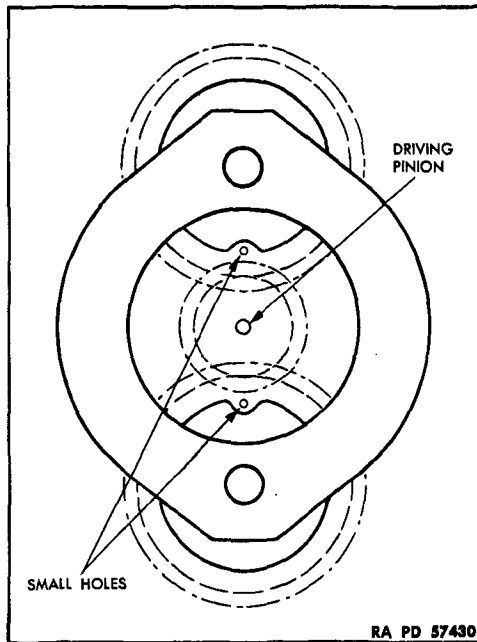

Figure 22 - Cage and Gear Assembly Diagram
c. Assembly. Place one intermediate gear (I) into pinion cage. **NOTE: Make certain the side with the small hole in gear face is facing the outer side of pinion cage. The two intermediate gears are interchangeable.** Place intermediate gear pin (G) through the pinion cage and intermediate gear, making certain the lubrication fitting hole is toward the outer side of cage. Install lubrication fitting (F) in intermediate gear pin. Rotate the intermediate gear pin until slot in pin is in alignment with small pin hole in cage. Secure intermediate gear and pin to cage, using pin (J). Install the second intermediate gear in cage in exactly the same manner as the first intermediate gear. When assembling the second intermediate gear to cage, make certain the small holes are directly across the center line of the driving pinion (fig. 22).
a. Assembly. Coat ball bearing (M) with a heavy film of No. 2 general purpose grease. Tap ball bearing into cavity of internal gear and case (L). Place oil retainer (N) next to ball bearing. Place load sheave (BM) through ball bearing. Secure pinion cage (K) to